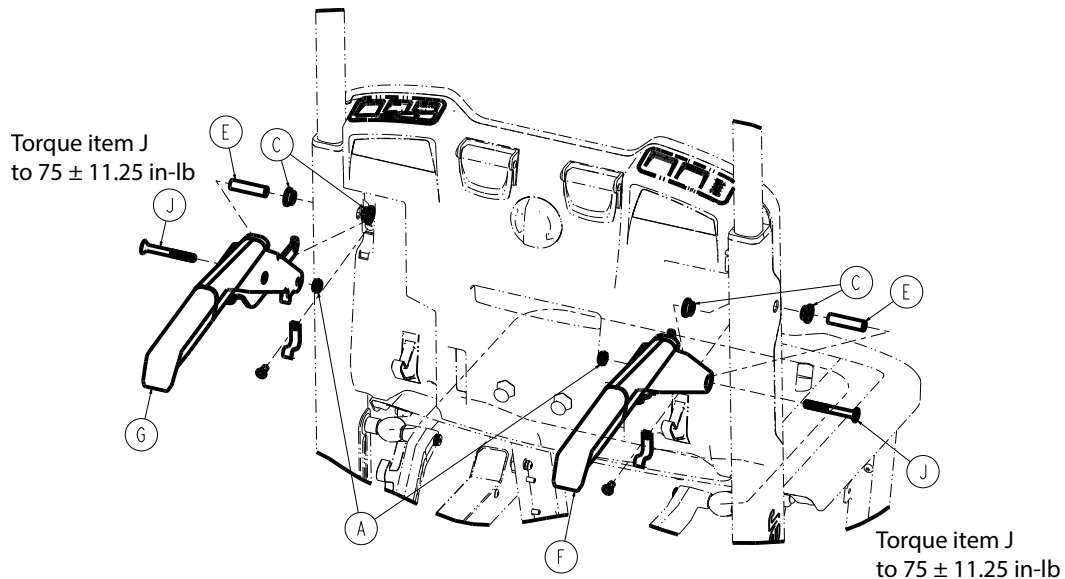

Figure 39 –
8. Using a 7/16" hex wrench and T27 Torx driver, remove the flat countersunk head caps screws (J) and Nylock nuts (A) that secure the upper carry handle assemblies (G and F) to the product (Figure 39). Save the screws and nuts.
9. Remove the upper carry handle main pivot sleeves (E) and flange bearings (C) (Figure 39). Save all parts.